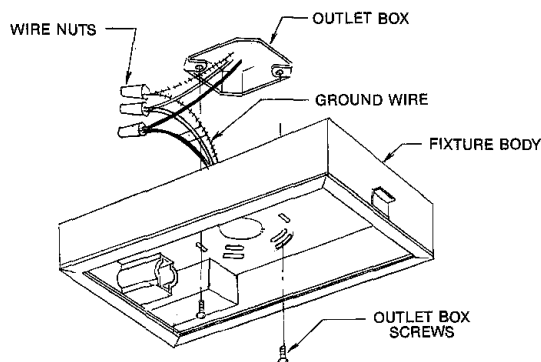

FIG. 2
3. Make connections: Black fixture lead or fixture lead without tracer mark to black supply lead; white fixture lead or fixture lead with tracer mark to white supply lead. Attach bare GROUND WIRE to outlet box grounding screw (or to other system ground). Use WIRE NUTS (local hardware item). Place connections in OUTLET BOX. See Fig. 2.